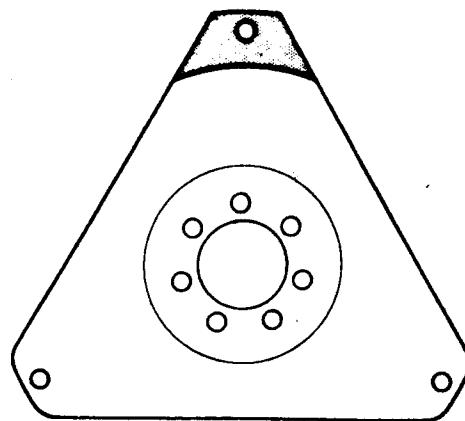

Fig.1.27 Torque converter driving plate fitted to the crankshaft instead of flywheel, with automatic transmission vehicles
- 1 The procedure described in the preceding section applies to the removal of the torque convertor driving plate which is fitted instead of a flywheel with automatic transmission, Fig.1.27. Note convertor/plate mating marks for exact replacement.